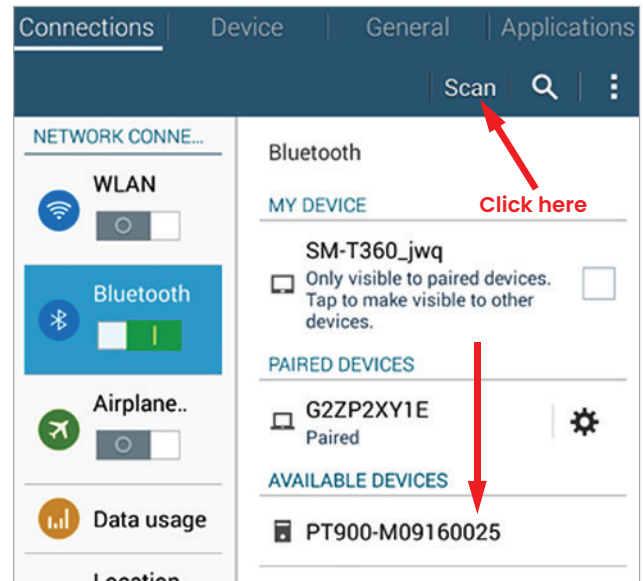

Figure 66: Available devices list
- In Android, app will search for all available transmitters via Bluetooth. After the scan has been completed, any new transmitters which were found are listed in the *available devices* section of the tablet screen (see red arrow in *Figure 66* below). Click on your transmitter to pair it with the tablet via Bluetooth.